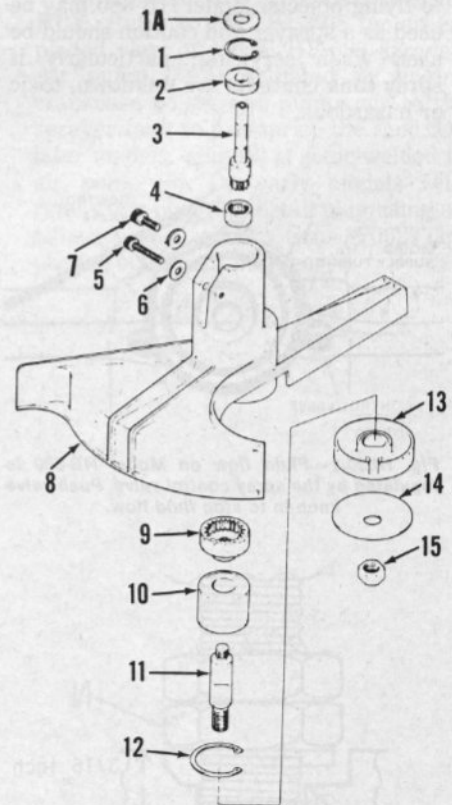

Fig. HL29-5—Exploded view of brushcutter head which is standard on Model ST-210 and optional on Model ST-200.
A brushcutter head is standard on Model ST-210 and optional on Model ST-200. Refer to Fig. HL29-5 for an exploded view. Blade retaining nut (15) has left-hand threads and must be turned clockwise for removal. Head (8) is aligned with drive tube by screw (7) which aligns holes in head and drive tube. Loosen clamp screw (5) to remove head from drive tube. When assembling head, install bearing (2) with sealed side up.